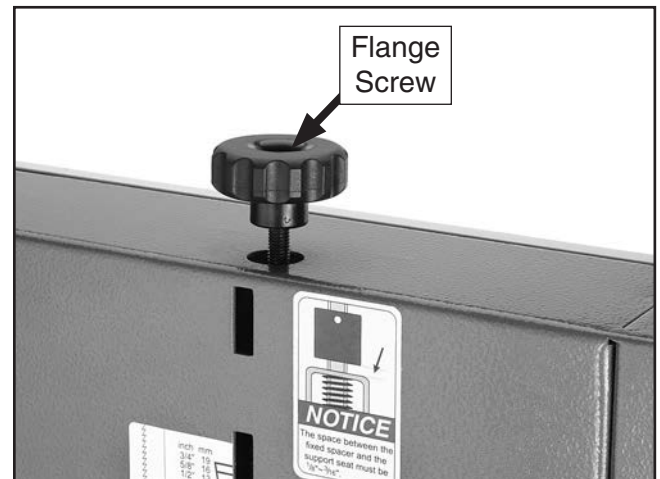

Figure 11. Blade tension knob installed.
6. Slide the blade tension knob over the threaded shaft, as shown in **Figure 11**, and secure the knob with the flange screw.